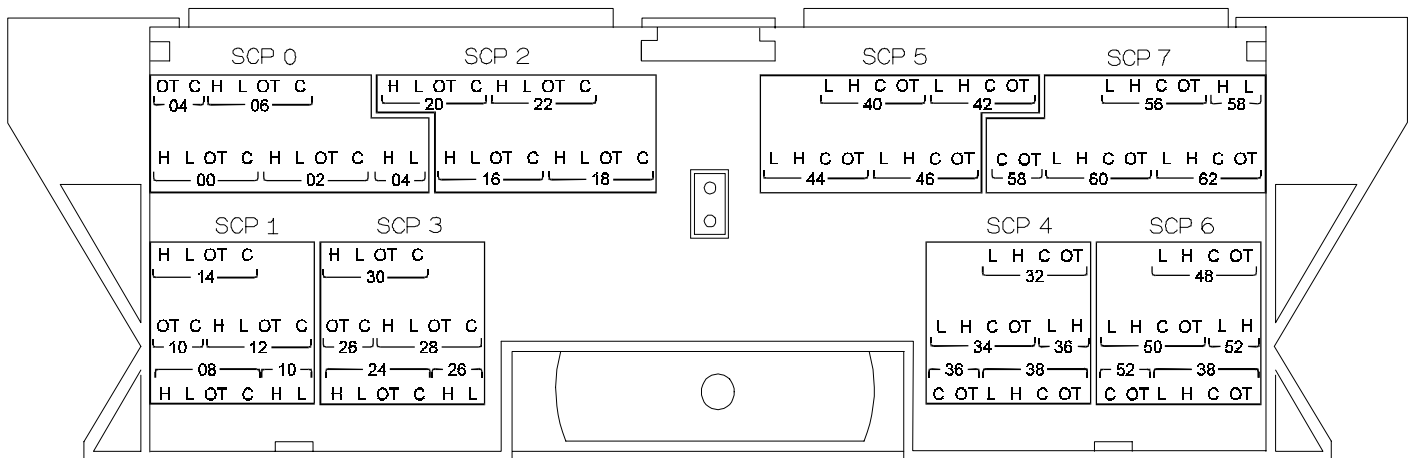

Figure 4 HP E1516/17 Connections with HP E1413B
- For HP E1413B and below Terminal Modules, see the connections shown in Figure 4.